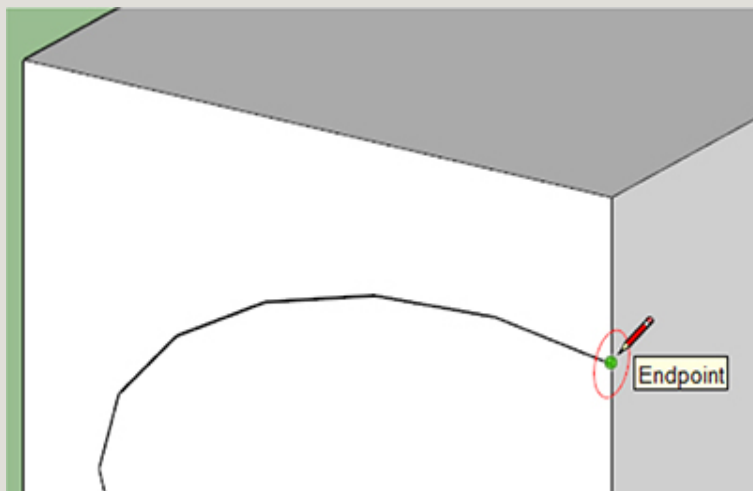

Figure 3-85 Draw a circle perpendicular to the arc.
- e. Draw a circle perpendicular to the arc, snapping the center to the end of the arc (Figure 3-85).